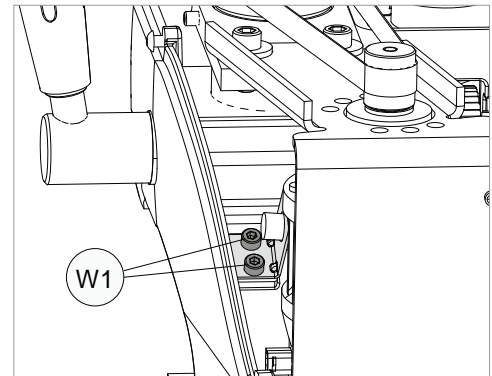
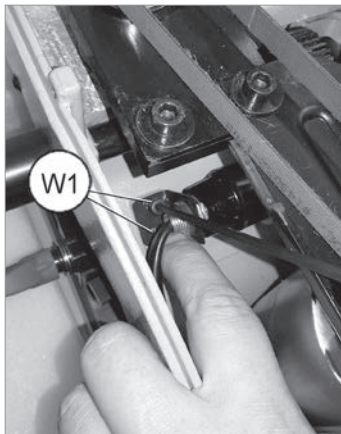

Fig. 43
Fig. 44
- 2) Carefully loosen the two screws (W1) and remove the lamp holder (W) (Fig. 43 - Fig. 44).
- 4) Fit the lamp holder (W) and secure it with the two screws (W1).